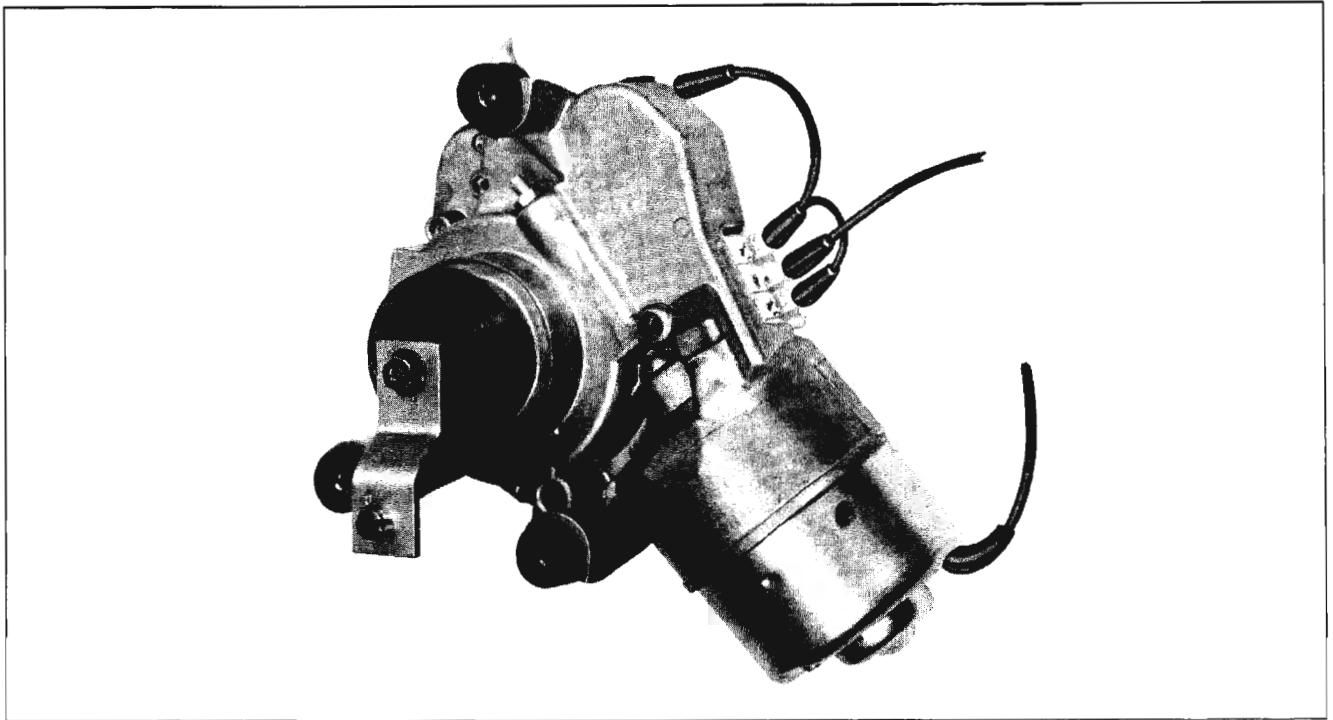

Fig. 14-84 Checking Motor (Off Car)
**WIPER INOPERATIVE (Off Car) (Fig. 14-84)**